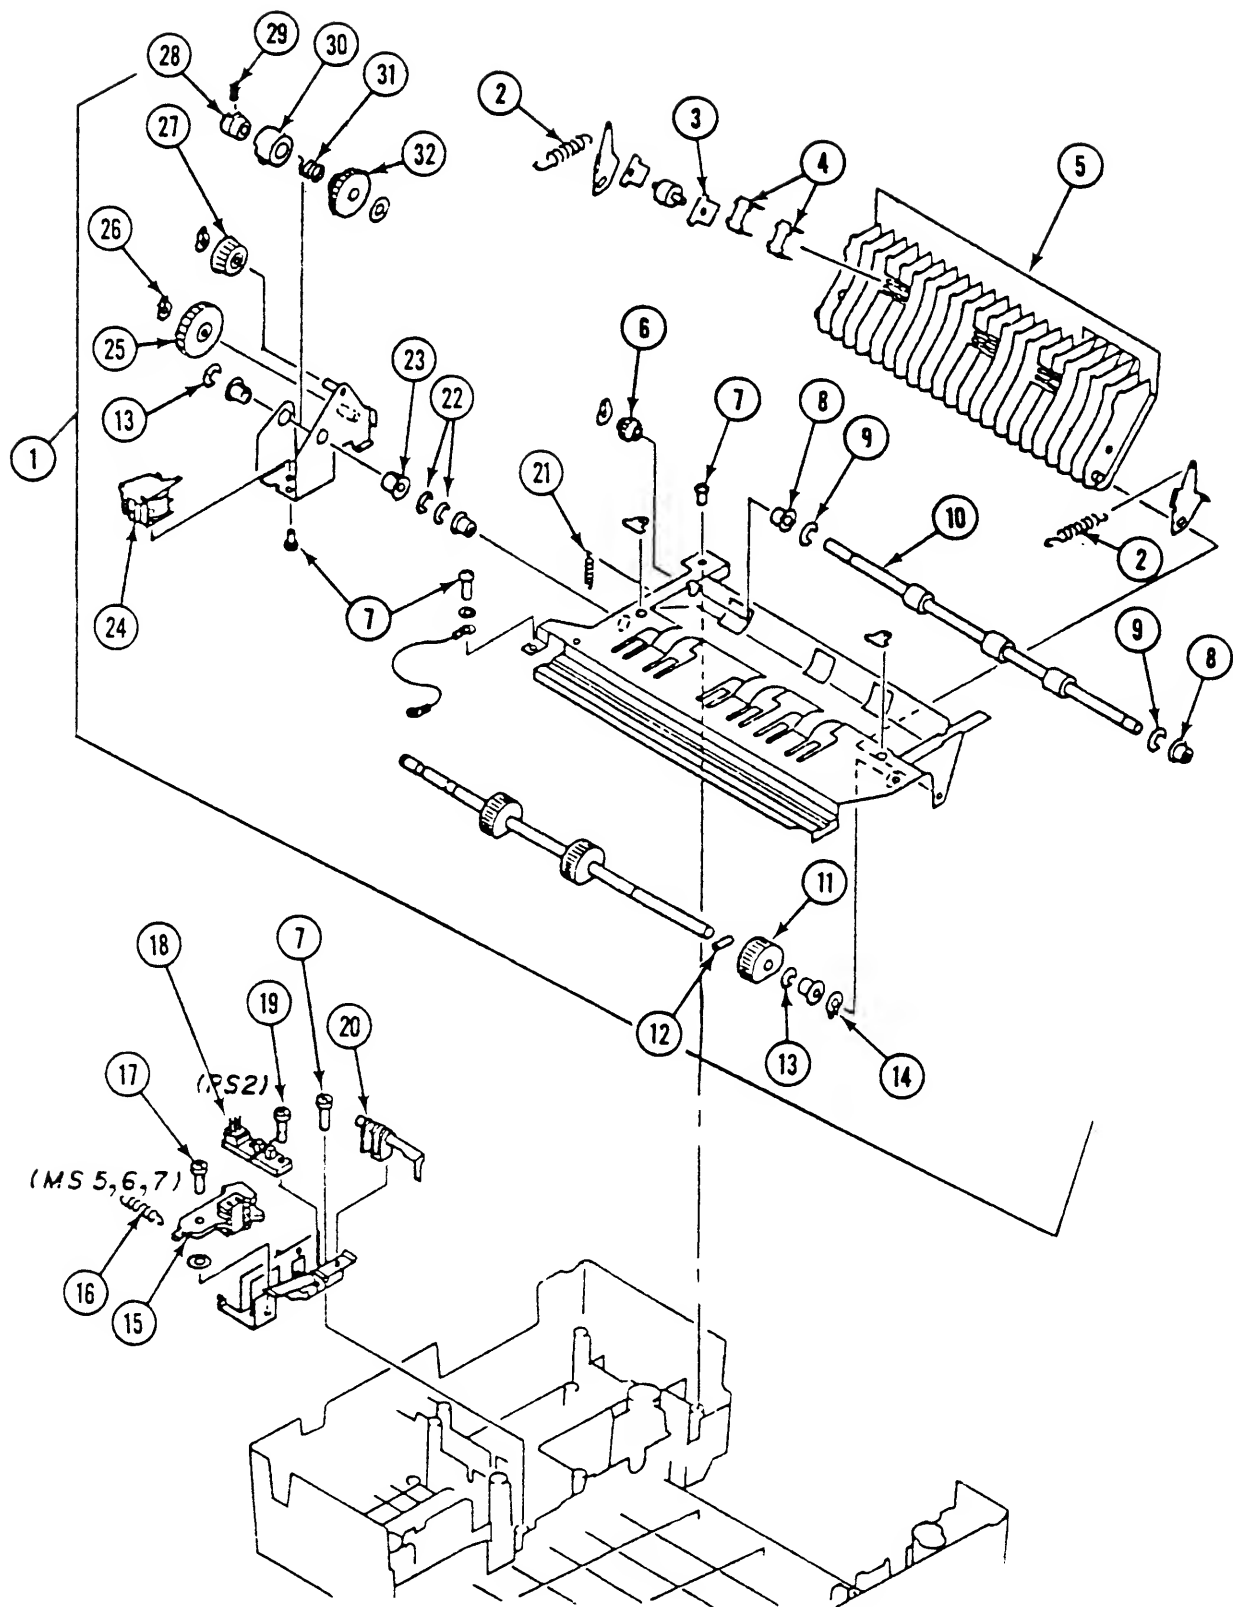

FIGURE 10
□ LASERWRITER – CASSETTE PICKUP ASSEMBLY (Figure 10)